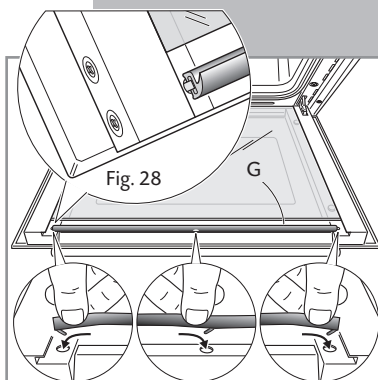

Fig. 29
- Top oven door only: reassemble the seal **G** in the correct way (fig. 28) by hooking the no. 3 fixing hooks in the proper holes (fig. 29).